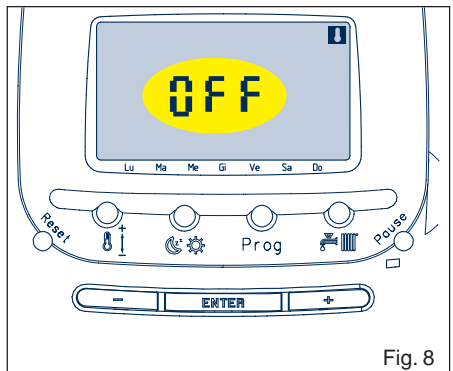

Fig. 8
- the word OFF in the temperature field (fig. 8)